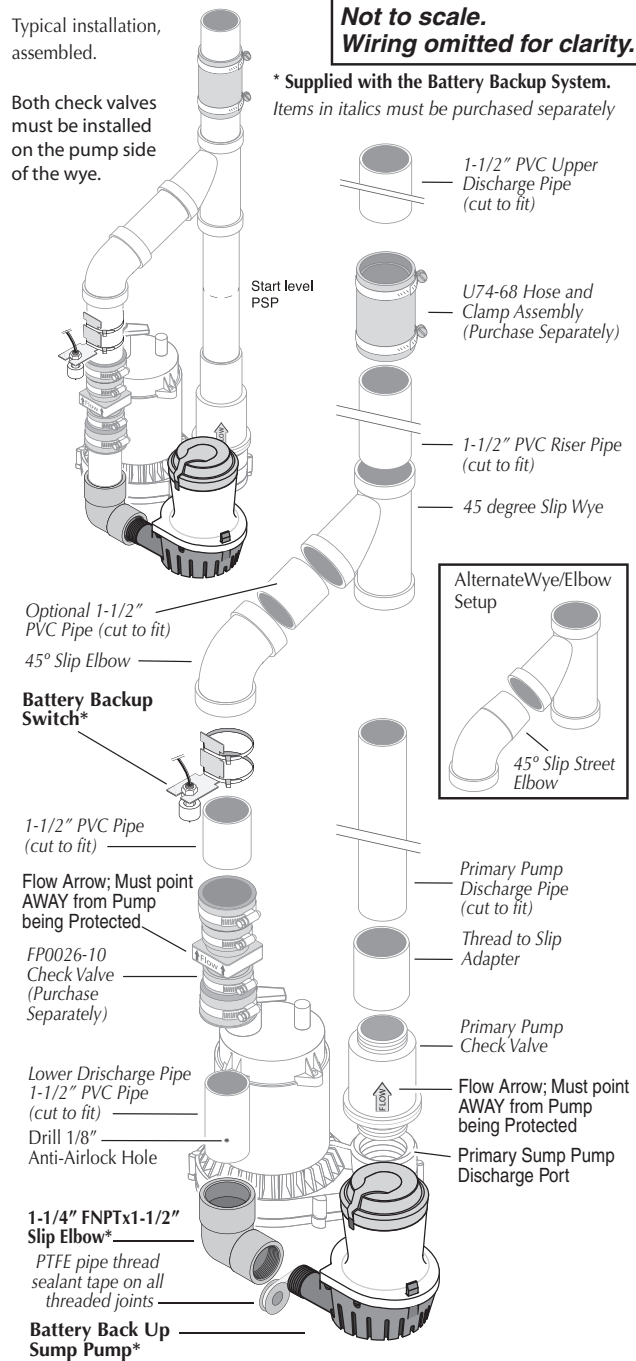

Figure 3: Common Discharge Pipe - Typical Installation
2. If there is no check valve in the primary sump pump's discharge, you will need to install one. You must also install one in the BBU's discharge pipe (Figure 3). Make sure that the check valve flow arrow points AWAY from the pump it is protecting.